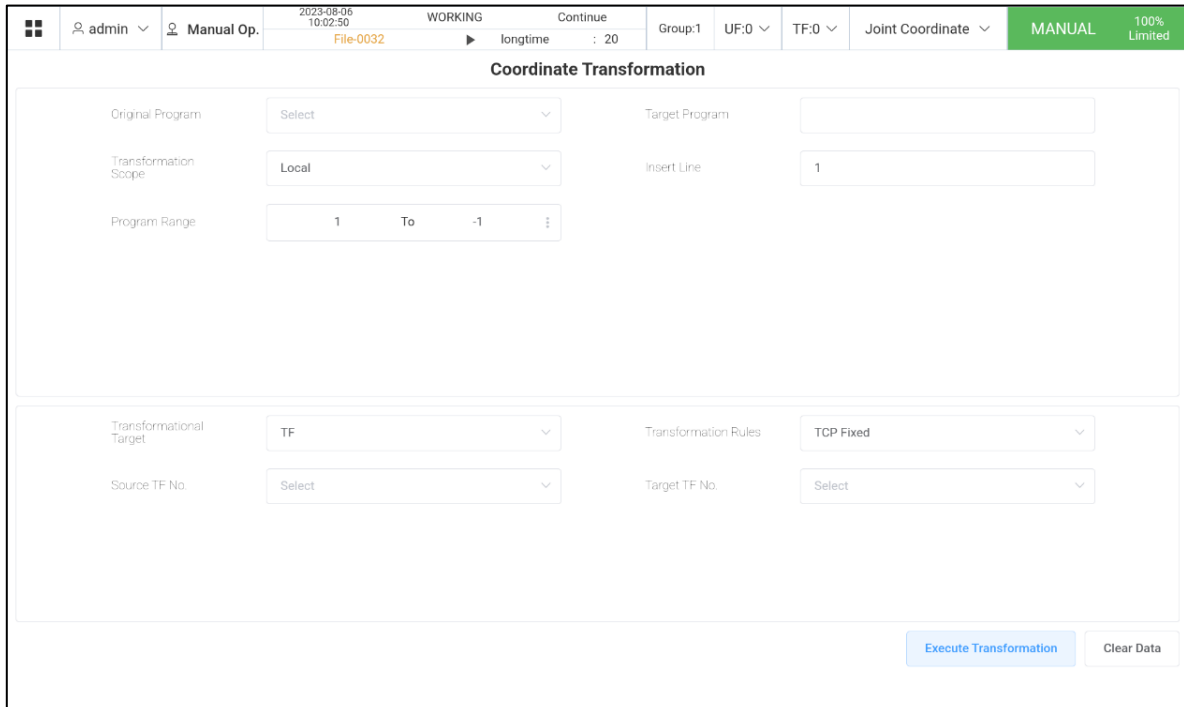

Fig. 2.30 Coordinate Transformation Interface
- 1) Click "Menu Button" → "Application" → "Coordinate Transformation" to enter the coordinate transformation interface, as shown in Fig. 2.30.